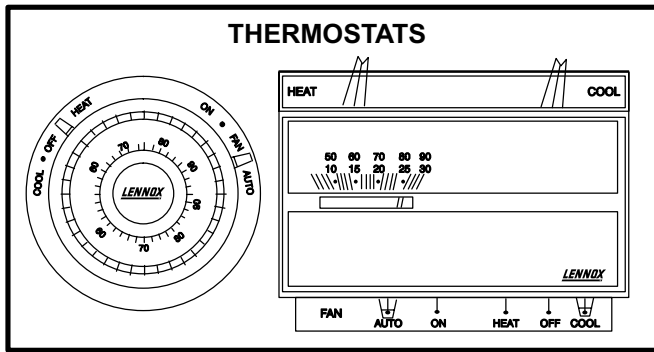
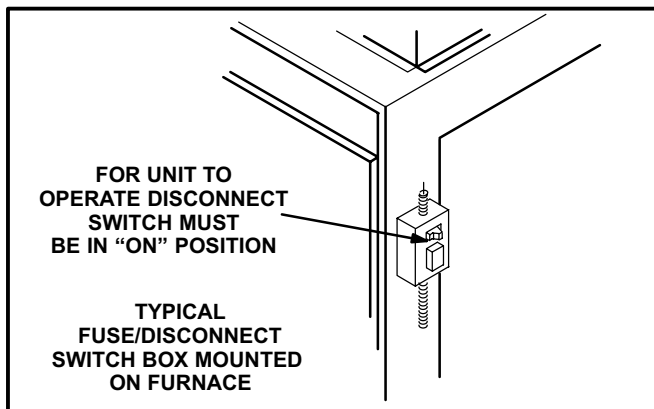

FIGURE 3
FIGURE 5
- 1- Set thermostat to lowest setting. See figure 3.
- 2- Turn off all electrical power to furnace. See figure 5.
- 6- Wait five (5) minutes to clear out any gas. Smell for gas, including near the floor. If you then smell gas, STOP! Immediately call your gas supplier from a neighbor's phone. Follow the gas supplier's instructions. If you do not smell gas go to next step.
- 10- Set thermostat to desired setting. See figure 3.